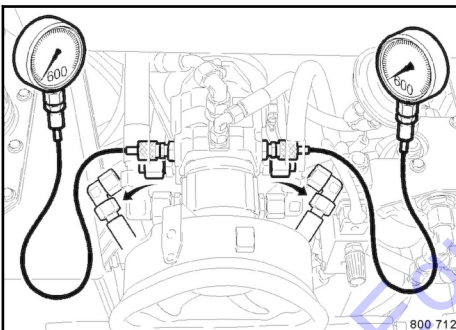

Fig. 115
3. Connect 600 bar pressure gauges ↪ Fig. 115 to high pressure test ports M_A and M_B.